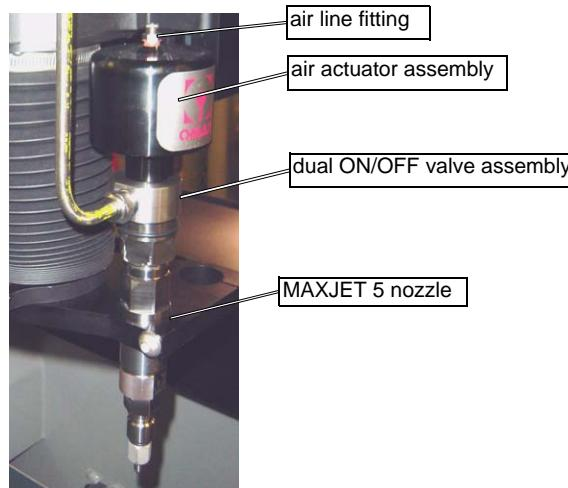

Figure 6-89: Dual ON/OFF Valve with the MAXJET 5 Nozzle
Figure 6-89 below illustrates an OMAX Dual ON/OFF Valve connected to a MAXJET 5 Nozzle:
- Re-attach the air line to the **air line fitting** on top of the **air actuator assembly**. Refer to Figure 6-89.